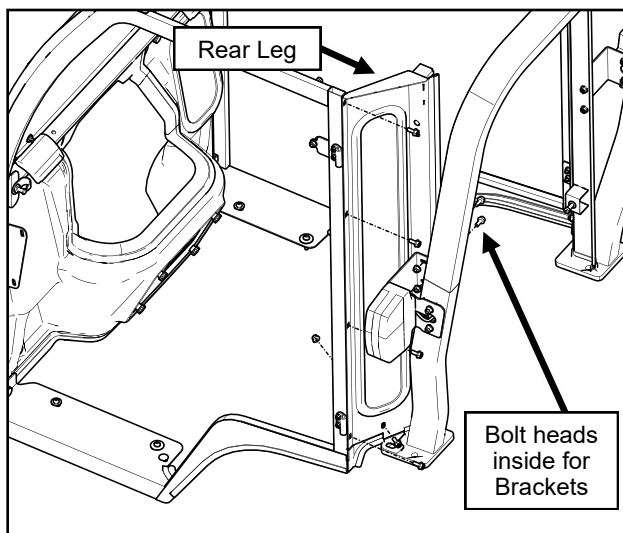

Fig. 10.1 (Rear Leg Installation)
- 10.1 With assistance, install the left side rear leg oriented as shown. See Fig. 10.1. Fasten to the side frame and ROPS brackets. Leave finger tight. Repeat for right rear leg.